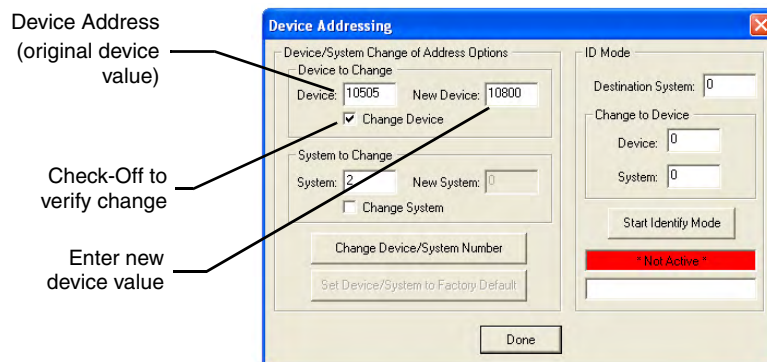

FIG. 26 Device Addressing dialog (changing the device value)
1. Access the Device Addressing dialog (FIG. 26) by either one of these two methods:
1. Access the Device Addressing dialog (FIG. 26 on page 44) by either one of these two methods: